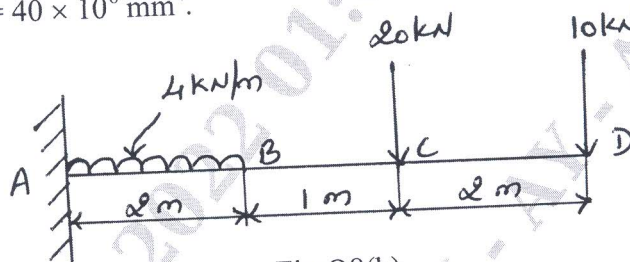

Fig.Q8(b)
- b. Find the slope and deflection at the free end of the cantilever shown in Fig.Q8(b).